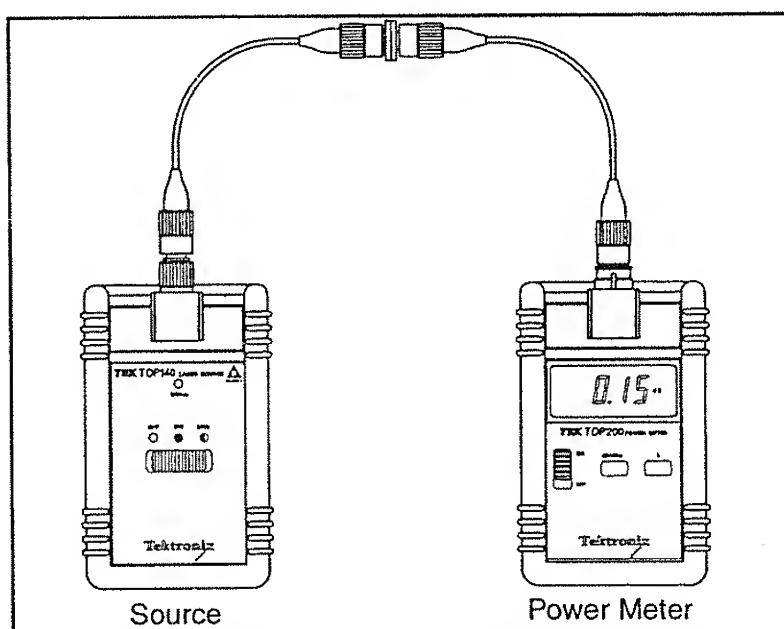

Fig 4.3 Measuring the Insertion Loss of a Connector/Cable
D) Disconnect the cable end from the power meter and insert the cable to be tested using a mating adapter. The power meter now reads the connector/cable loss in dB. The example of Figure 4.3 displays a connector loss of 0. 15dB.